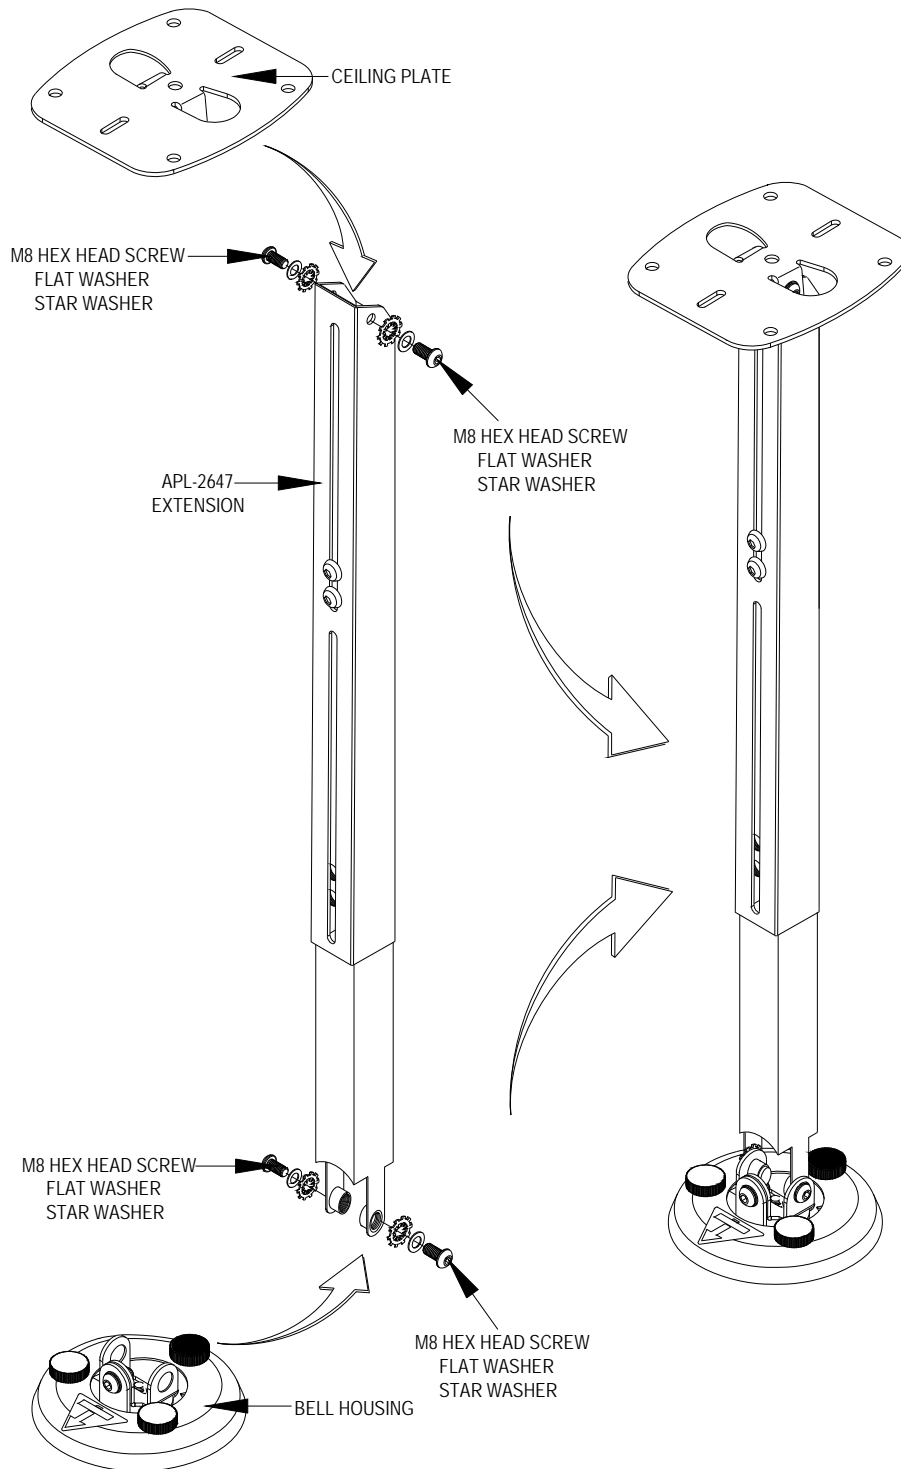

Figure 2. Extension Replacement
2. Replace the original extension with the APL-2647. Mount the APL-2647 the same way that the middle extension was removed (Figure 2).